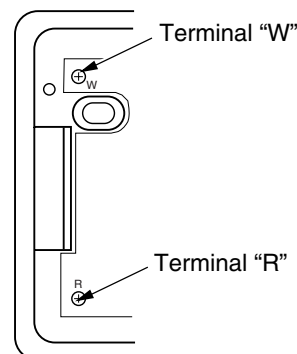

Figure 47 - Thermostat Base Terminal "W" and "R"
7. Connect one bare wire end to each terminal ("W" and "R") of the thermostat base (see Figure 47).